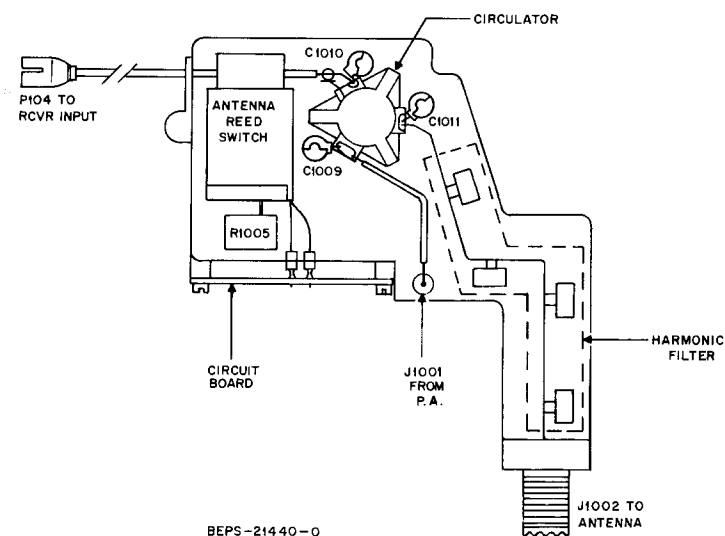

Figure 37.
(1) Tests to Assure Antenna Switch Network Is Faulty
Step 1. Disable the transmitter by (1) removing the red lead fuse (A+ line), (2) removing the exciter filter input(s) at J301 or J401 or both, or (3) removing the channel element.
Step 6. Check the dc resistance across R1005 (see Figure 37); it should be 50 ohms $\pm 10\%$. Energize the relay (white wire to A- yellow wire to A+) the resistance should drop to a short circuit. If it does not, check for a poor connections to the resistor. If the connection is good the relay should be replaced.
Step 3. Solder the connecting wires to the feed-through capacitors and the 50 ohm load. Also solder the shielded coax cable to the circulator in place (see Figure 37).
(4) Antenna Switch Network Retuning
Step 5. Adjust variable capacitor C1009 (see Figure 37) on the transmitter leg of the circulator for minimum indication on the rf voltmeter.
(2) Removal of Reed Switch
Step 4. Unsolder the three wires going to the feed-through capacitors and the 50 ohm resistor, taking care not to damage the 50 ohm resistor (see Figure 37).